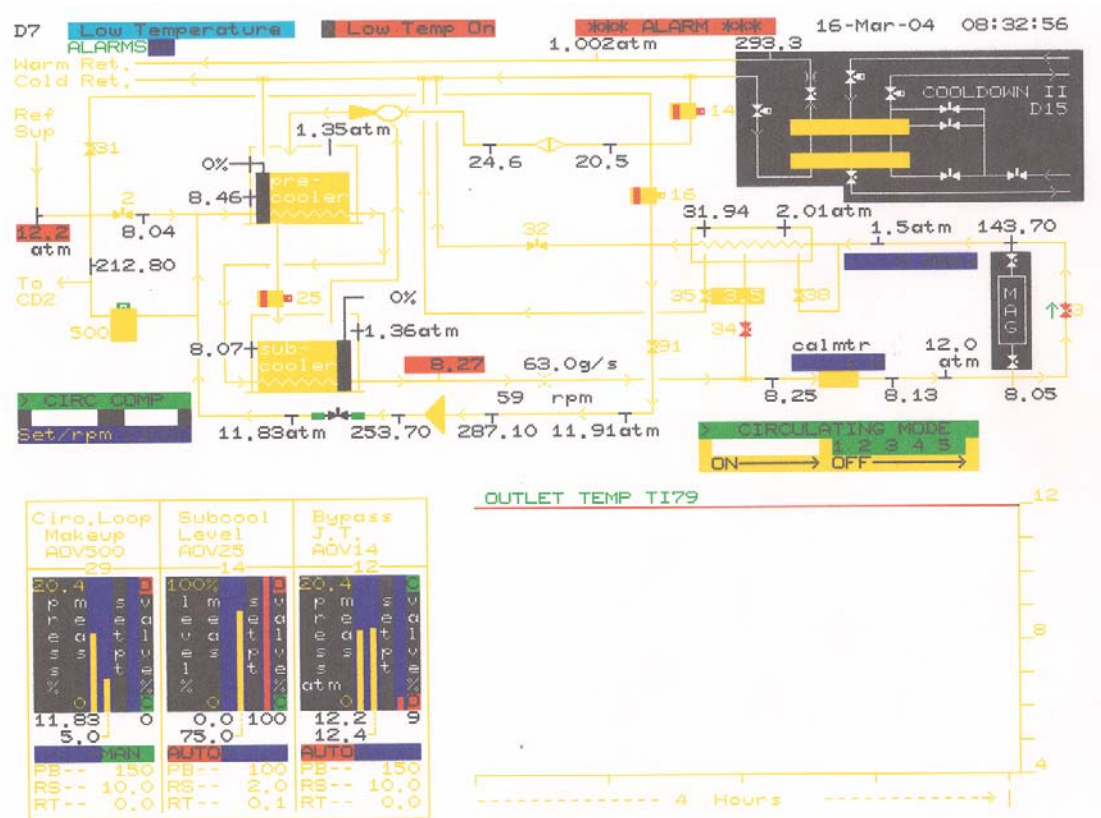

Figure 1. Display of control page D7 for Test and Measure in Bay D and E
5.3 For testing magnet in Bay D or E, use screen display page D7 to monitor process condition and control (as shown in Figure 1). The flow diagram consists of the Precooler, Subcooler, Cold Surge Tank, Ejector and Circulating Compressor. The Ejector is used to maintain pressure in the Subcooler to about 0.65 atm (~ 3.8 K). In the basic operation (without using Cold Circulator), high pressure helium from HEUB refrigerator (cooled by Precooler and Subcooler to approximately 3.9 K) is used to cool the magnet to ~ 4.2 K. After cooling the magnet, helium passes through Cold Surge Tank and is used as inlet to the Ejector. Three controllers for 1) loop pressure in circulator mode, 2) liquid level in Subcooler and, 3) by-pass flow through AOV14, are given in the lower left corner. Trend of temperature returned from the magnet is given in the lower right corner.